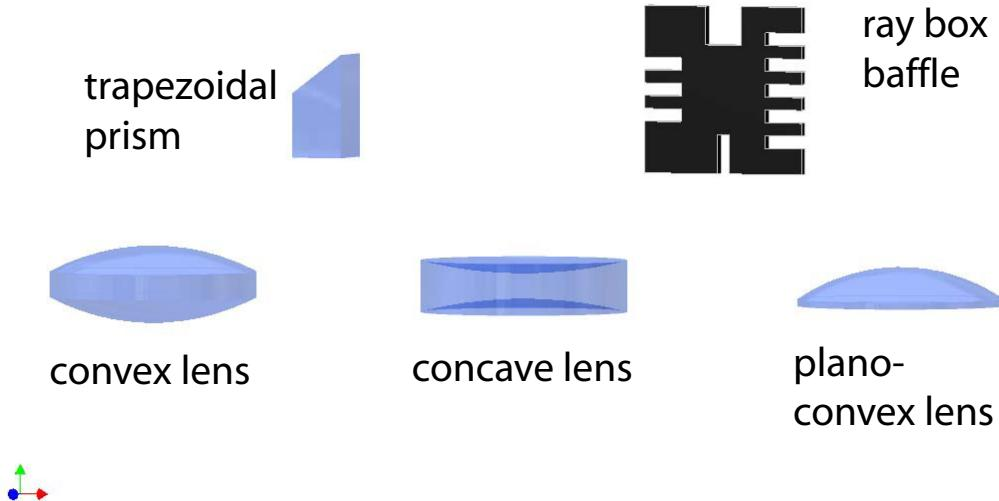

Figure 33: Components used with the ray box: lenses, prism, and baffle.
- **Snell's Law:** Arrange the baffle (see figure 33) on the ray box so a single ray appears. On top of a white piece of paper, place the trapezoid prism so that the ray passes through undeflected. Then rotate the prism roughly (precision is not important!) 45° as in figure 34. Notice that there are actually two interfaces where the laws of ray optics apply: the front interface and the back interface. The light ray from the ray box is incident on the front surface, is reflected off of the front surface, and is also transmitted through the front surface inside the prism. You will be measuring the angles of these three rays to verify the laws of ray optics. These laws could also be verified for the back interface, by realizing the ray inside the prism, which is the *transmitted* ray according to the front interface, is now the *incident* ray with respect to the back surface.